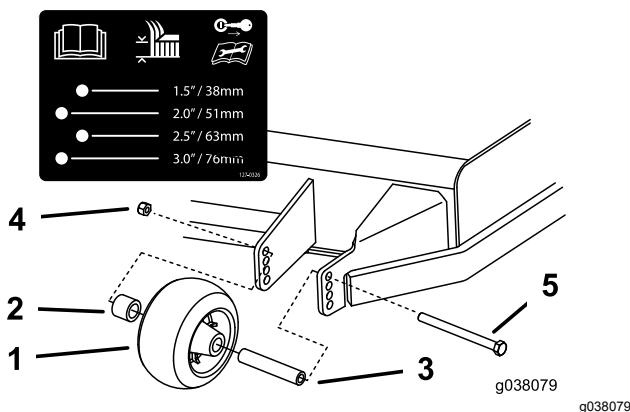

Figura 32
- Reglai rolele anti-scalp conform Figura 32.